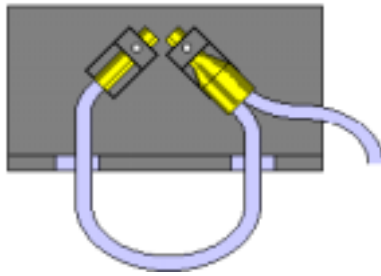

Figure 85 Inserting into the left holder
9. Insert one of the free fibre optic ends into the left side holder, as shown in Figure 85.